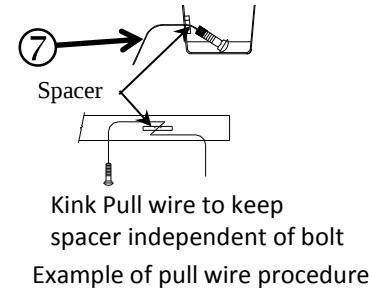
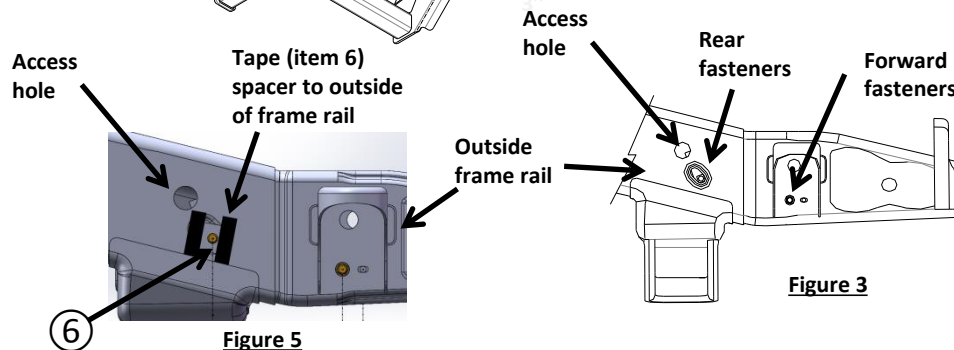
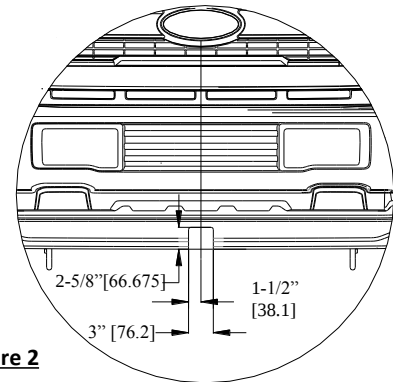

Figure 4
Figure 5
Figure 2
- Trim or remove lower air dam. See Figure 2 If cutting, recommend drilling 3/8" at corners to maintain radius for appearance. See Figure 2
- Feed the coiled end of the pull wire through the bolt forward attachment hole in the side of the frame and out the access hole. (Note: driver & passenger side use opposite hole positions) Attach carriage bolt and spacer (item 1 & 2) to the pull wire. Pull the pull wire with fasteners into location through the hole. Leave pull wires attached. Repeat the same process on the both frame rails.
- Feed the coiled end of the pull wire through the bolt rearward attachment hole in the side of the frame and out the access hole. Attach carriage bolt and spacer (item 1 & 5) to the pull wire. Pull the pull wire with fasteners into location through the hole. Leave pull wires attached. Repeat the same process on the both frame rails.
- Tape spacer (item 6) to rearward attachment location. See Figure 5. Then push all fasteners back into the frame rail leaving the pull wire attached and sticking out. See Figure 4
1. Trim or remove lower air dam. See Figure 2 If cutting, recommend drilling 3/8" at corners to maintain radius for appearance.